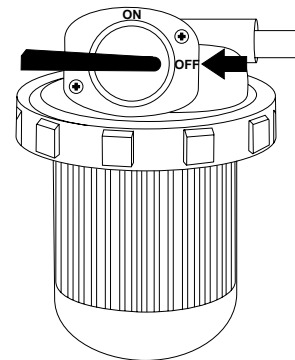

Figure 61. Fuel Valve Lever (CLOSED)
1. Place fuel valve lever (Figure 61) in the **CLOSED** position.